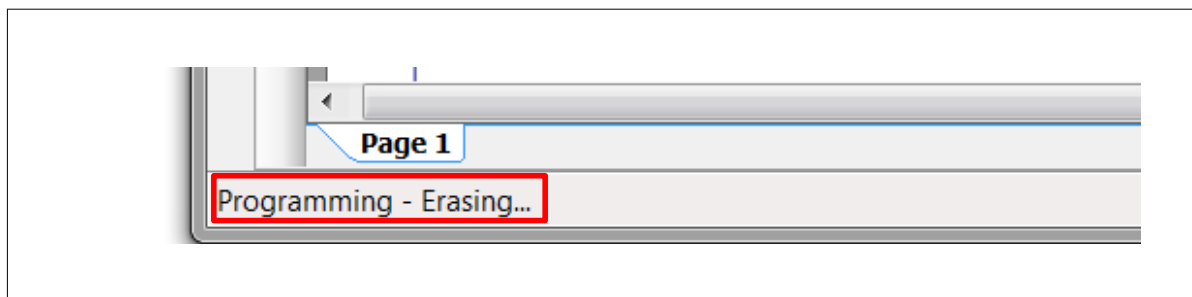

Figure 51 **Programming status**
4. You can view the programming status on the status bar (lower-left corner of the window), as shown in Figure 51.